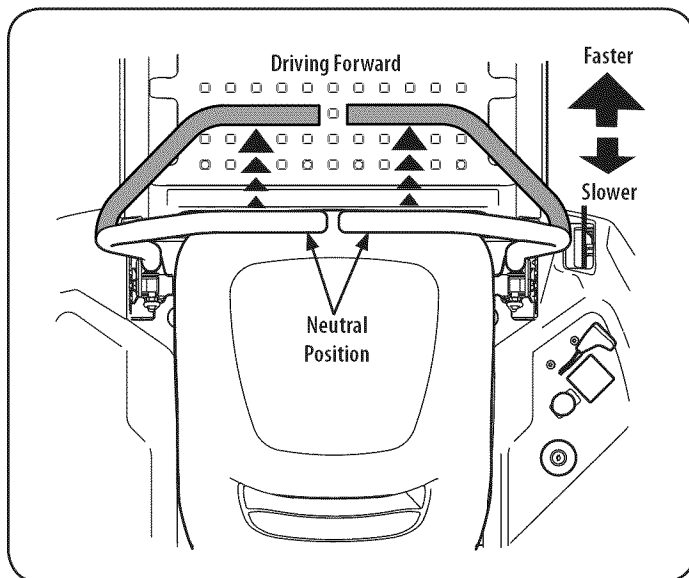

Figure 10
1. Slowly and evenly move both drive control levers forward. The riding mower will start to move forward. See Figure 10.